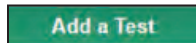

Figure 78. The Add a Test button.
**Add a Test Operation.** Click on the green **Add a Test** button at the bottom of screen to add a new **Test** operation to the end of the test sequence. See Figure 78. **Test** operations can only be added sequentially from the top down.